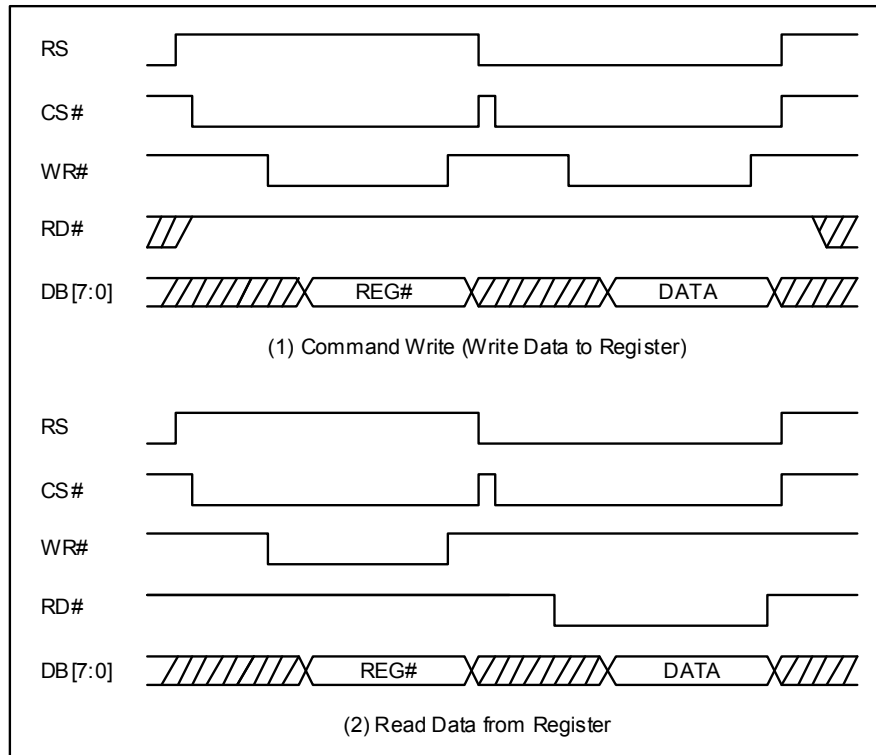

Figure 6-6 : Register Write/Register Read
RA8870 contains dozens of registers. If users want to write a command into the register of RA8870, they must execute the command write cycle first, i.e. the address of register, and then execute the data write cycle for storing a new data into the target register. So "Write Command" means that it will write a new data into the register. Please refer to the Figure 6-6 (1) for the related access timing.
If we want to read the register contents of RA8870, it has to execute the command write cycle first, and then the second access cycle must use "Data Read cycle". Please refer to the Figure 6-6 (2). But please note that the Figure 6-6 is based on 8080 interface.